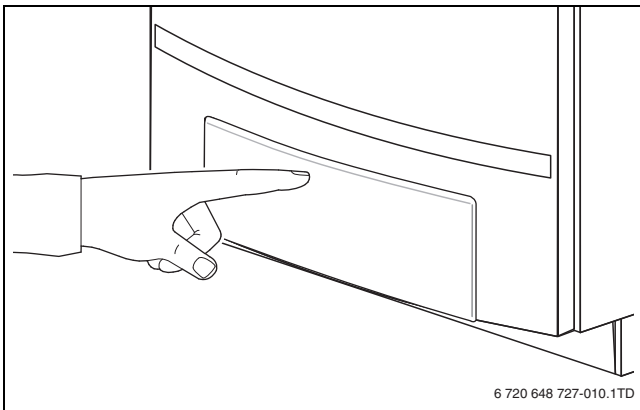

Fig. 3 Opening the control panel
- ▶ Push on the control panel to open it (→ fig. 3).